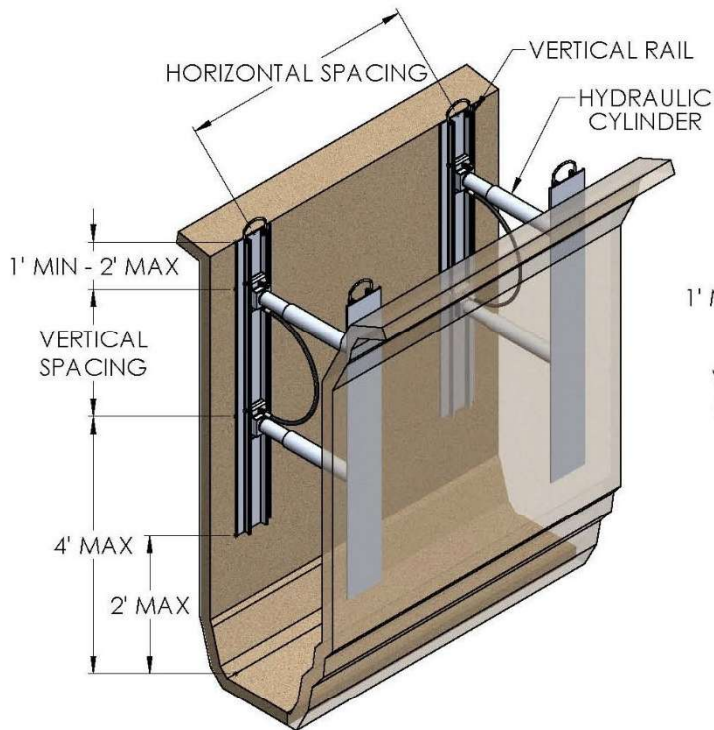

Figure 4: HVS Typical Application
3. Always refer to **Figure 4 & 5** on **Page 7**. to ensure you are not exceeding the spacing limitations outlined.